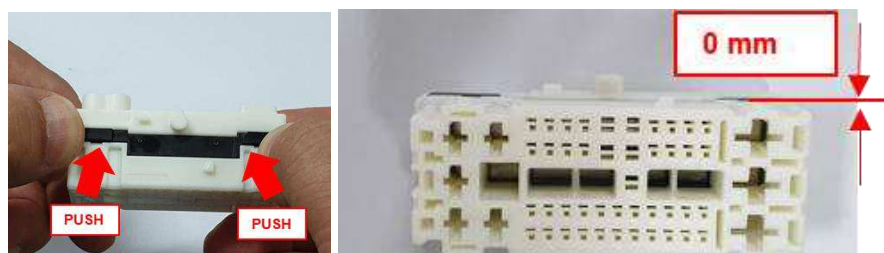

Fig. 18
- (1) After all cavities are filled by Contacts properly, insert Retainers into Housing to deep end and complete Final Lock condition as shown in Fig. 18. Operation is completed when contact is latched and the insertion is stopped.